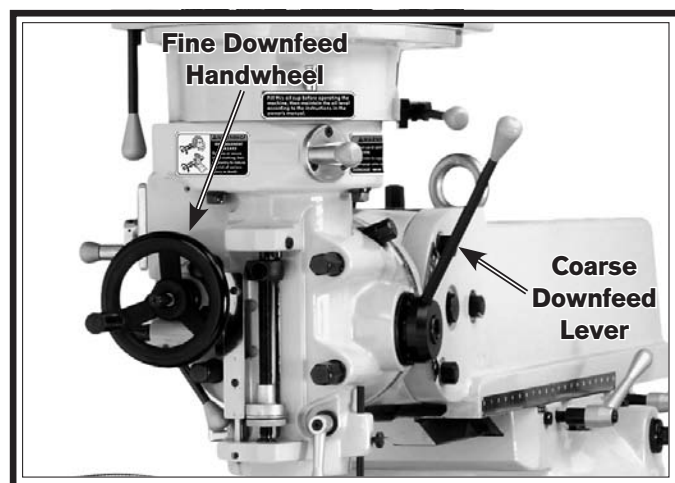

Figure 15. Coarse downfeed lever and fine downfeed handwheel installed.
16. Install the coarse downfeed lever and the fine downfeed handwheel, as shown in **Figure 15**.